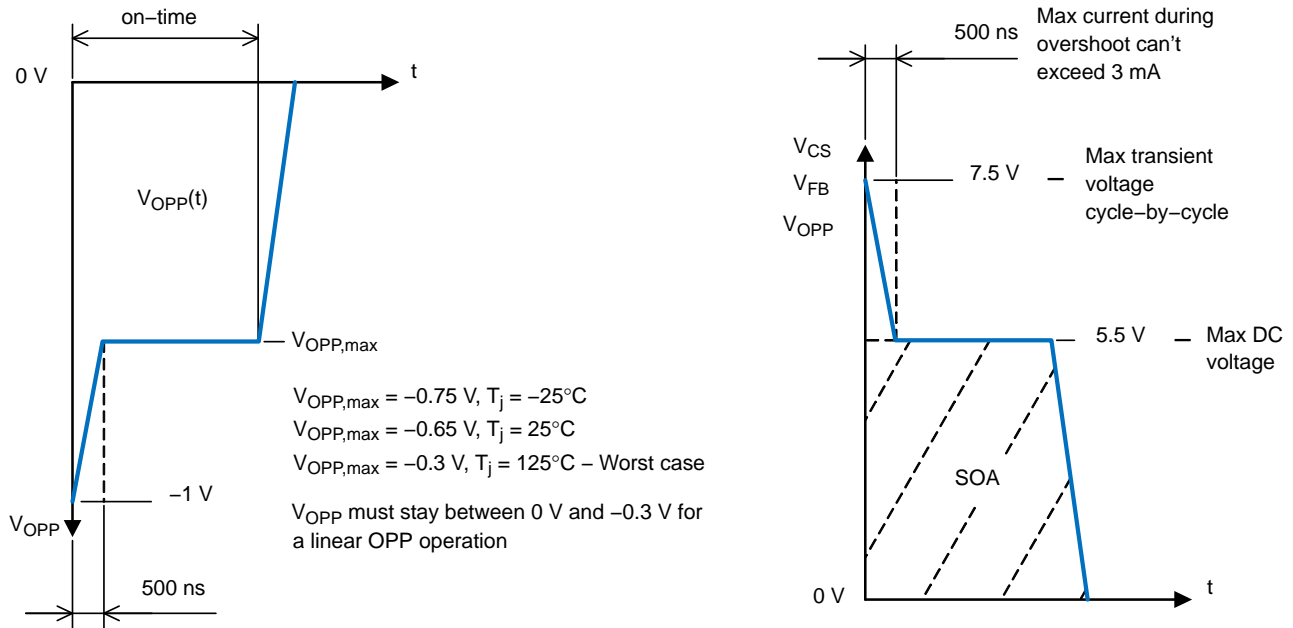

Figure 4. Negative Pulse for OPP Pin during On-time and Positive Pulse for all Low Power Pins
2. See the Figure 4 for detailed specification of transient voltage.